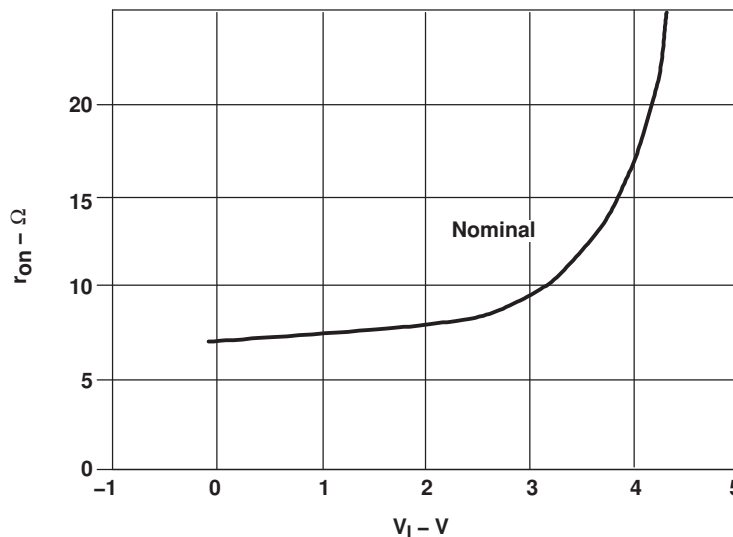

Figure 4. On-State Resistance vs Lowest I/O Voltage for an N-channel FET Switch With $V_{CC} = 5\text{ V}$
For an N-channel FET to operate properly, the gate should be biased more positive than the magnitude of the signals to be passed. This is because the on-state resistance, R_{ON} (or $R_{DS(ON)}$ as it also is called), increases as the gate, minus source voltage, V_{GS} , decreases. If the lowest $V_{I/O}$ signal approaches the magnitude of V_{CC} , V_{GS} decreases and R_{ON} increases (see Figure 4). The ability to maintain a low R_{ON} in a FET switch depends on maintaining V_{GS} as large as possible. In many applications, this characteristic is not a problem, but the designer should be aware of the nonlinearity of this type of device.
- Sine-Wave Distortion or Total Harmonic Distortion.** These are measurements of the linearity of the device. Nonlinearity can be introduced a number of ways (design, device physics, and so forth) but, typically, the largest contributor is R_{ON} . As shown in Figure 4 and Figure 6, R_{ON} varies with V_{IO} for all types of CMOS switches. Having a low R_{ON} is important, but a flat R_{ON} over the signal range is almost equally important.